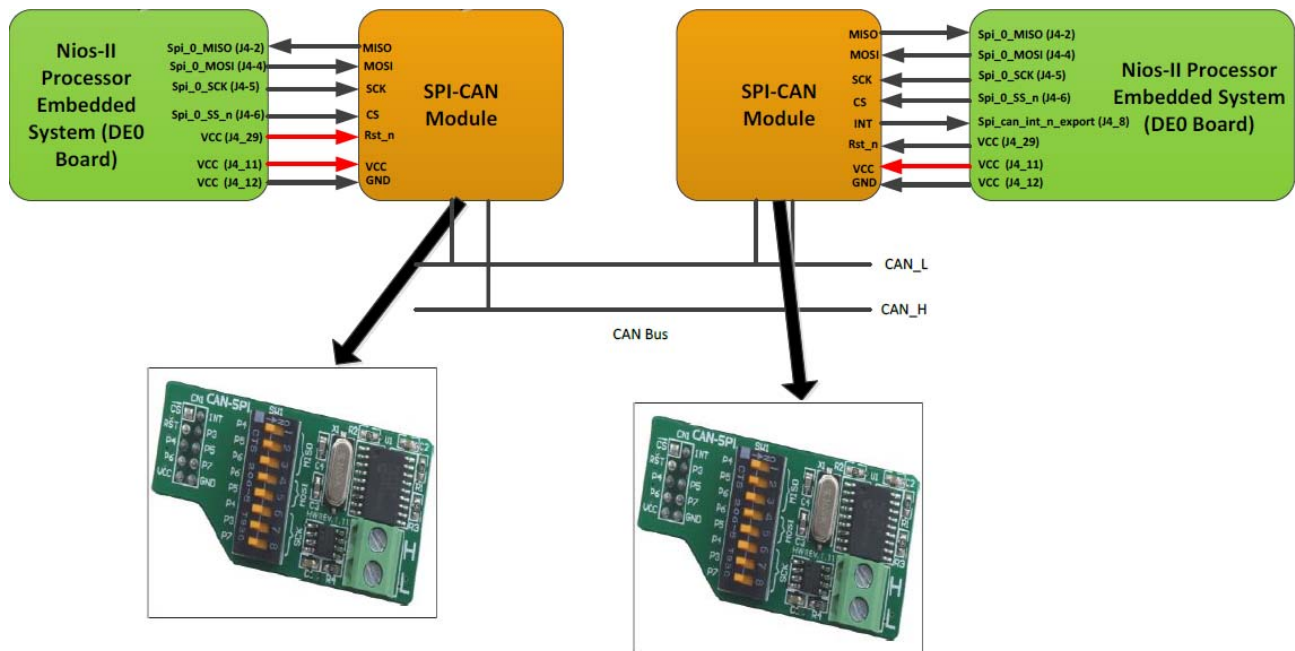

Figure 2
- The boards should be connected as shown in Fig 2.